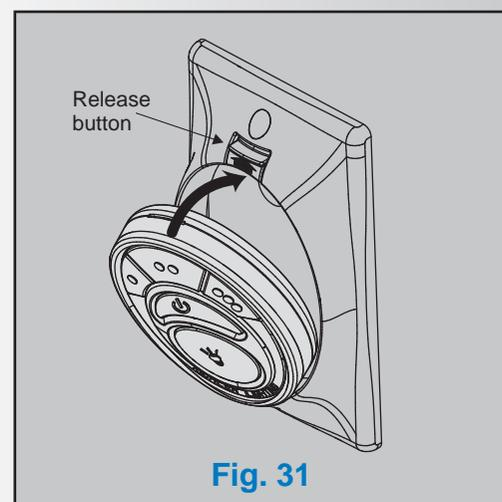

Fig. 31
1. Insert the transmitter into the wall plate by inserting the bottom of the transmitter first and then press the top of the transmitter into the pocket. The transmitter will fully function from this location or you can remove the transmitter and use as a "Hand Held" device. (Fig. 31)